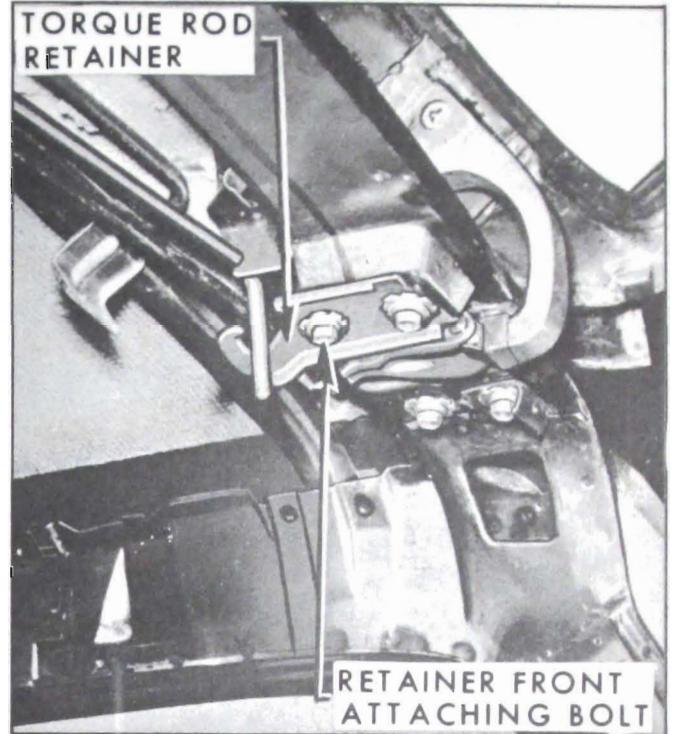

Figure 13-77—Back Door Hinge and Torque Rod
2. With the aid of a helper to hold back door, remove hinge-to-back door attaching bolts (see Figure 13-77) at both hinges and remove back door assembly.
(b) Mark position of torque rod retainers (see Figure 13-77) at both right and left hinges to facilitate reposition retainers in same fore and aft position.
(c) Using a suitable length of pipe over end of torque rod, release tension of torque rod from retainer. While tension of torque rod is released from retainer, loosen retainer attaching bolts (see Figure 13-77); then, release retainer. Loosen the two remaining hinge attaching bolts. Perform this operation at both right and left hinges.
4. Using a suitable length of pipe over end of torque rod, remove tension of torque rod from retainer. While tension of torque rod is removed from retainer, loosen retainer attaching bolts (see Figure 13-77), adjust retainer forward or rearward, as required; then, tighten retainer attaching bolts.